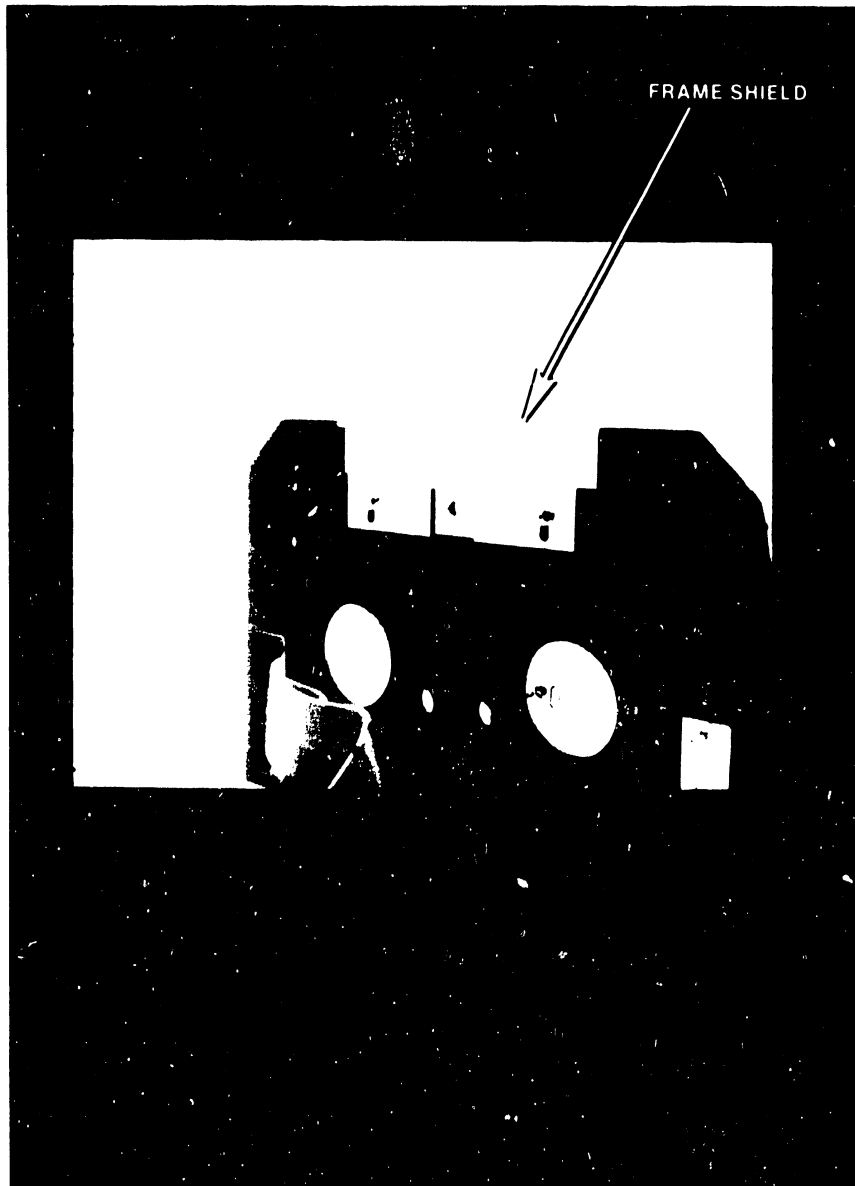

FIGURE 2 FRAME SHIELD REPLACEMENT
2. Remove side frame shield from cabinet assembly (see Figure 2). Install new (reworked) side frame shield to cabinet.